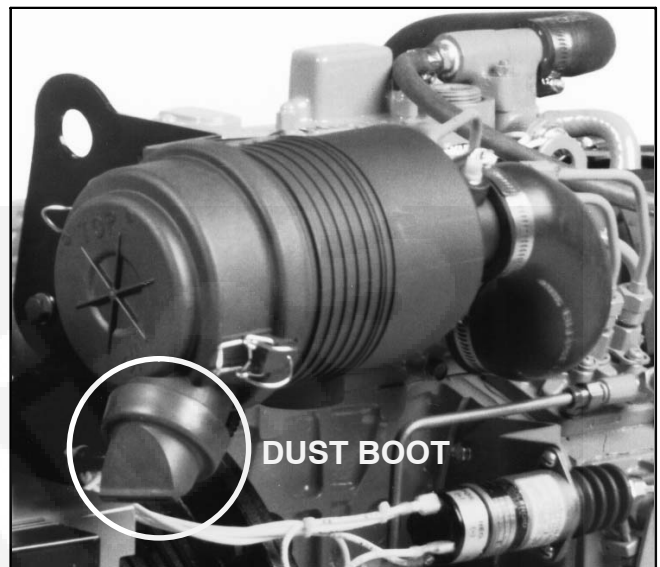

FIGURE 6. AIR CLEANER ASSEMBLY
1. Unclip the cover (Figure 6) and pull the filter element out gently to reduce the amount of dust dislodged. Gently twist or move the element side to side to disengage the seal and pull it out.